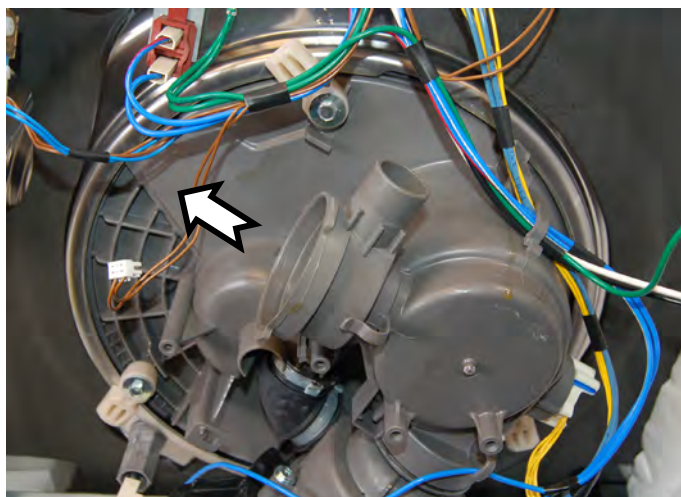

Figure 4
5. Remove the drain pump from sump assembly, (see Figure 4).